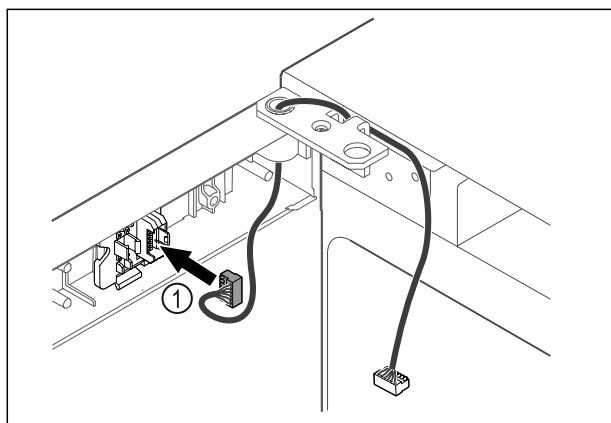

Fig. 48
- ▶ Put the plug Fig. 48 (1) in the plug holder.